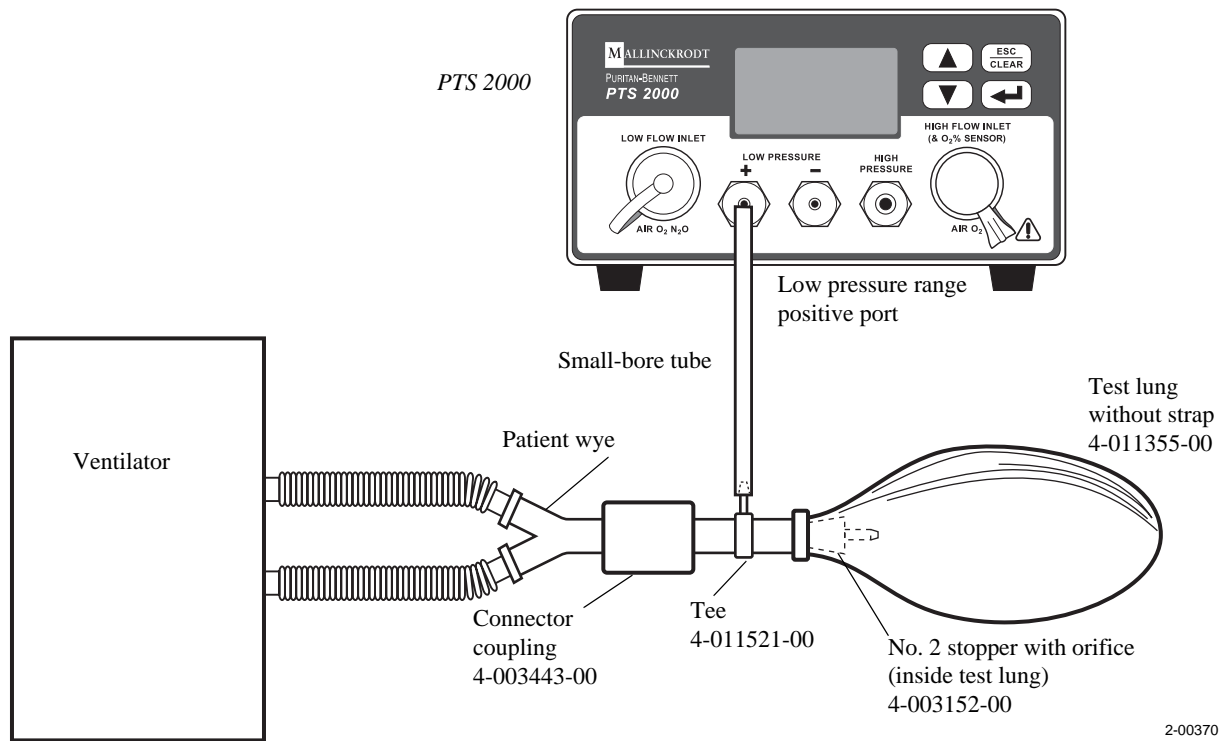

Figure 7-9. Setup for Test 14, Step 3
3. Tee into patient circuit at wye using coupling (P/N 4-003443-00), tee (P/N 4-011521-00), and one small-bore tube. Connect one end to the test instrument's positive Low Pressure port (Figure 7-9).